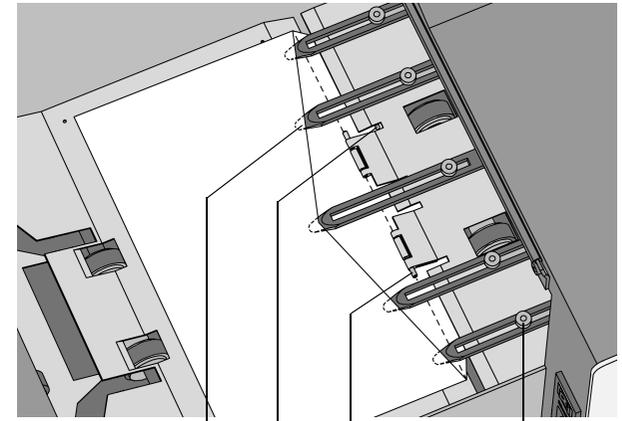

Fig. 22
Press key 1 in the "test run" menu to bring one envelope onto the insert table. Lift the locking lever of the loc and pull the loc into the vertical position. The flap folding line must be positioned under the green indicator C (fig. 22). If necessary adjust the
To adjust the insert fingers A (fig. 22) (5 in total) loosen the knurled knob D on top of each finger.
When adjusting the fingers sideways, be sure that finger A (fig. 22) is not positioned over sensor B. When an incorrect finger position is adjusted the display shows an error screen.